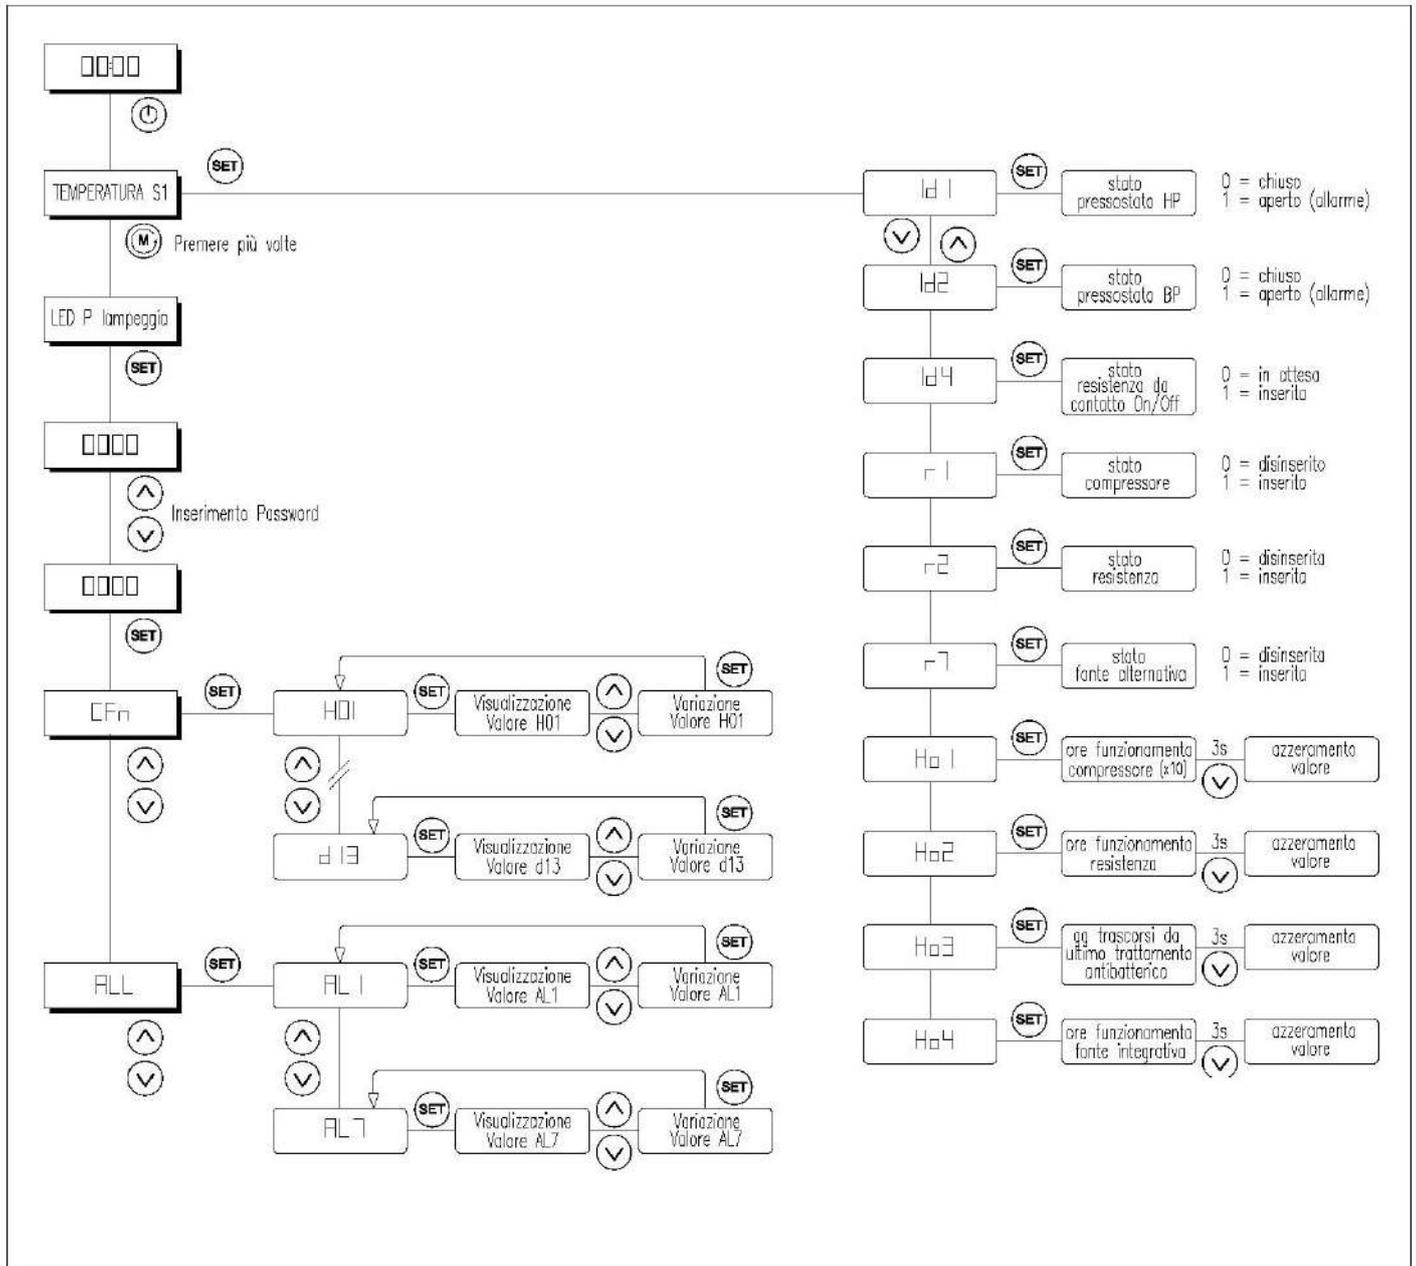

Fig.25
5.5.1 DIAGRAMMA COMPLESSIVO (Fig.25)